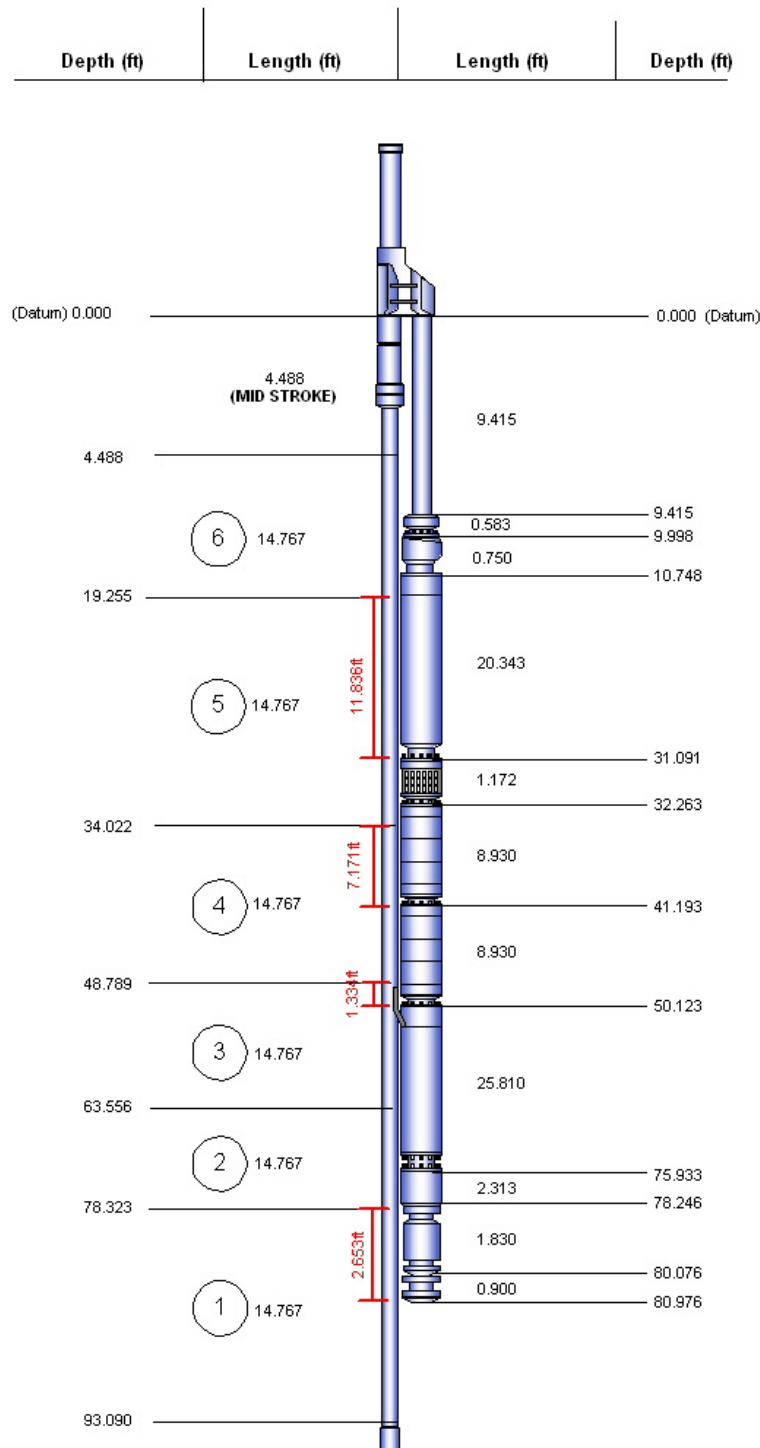

Figure B-21: Bypass Space Out Drawing Template
6. Calculate where each ESP flange (make up point) will lie with respect to the bypass tubing joints alongside, and note on the drawing. See finished example in Figure B-21.